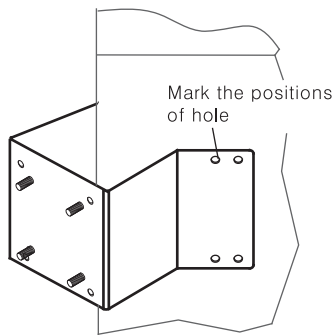

FIG.1
- a-1. First mark the positions of holes placing the corner mount bracket. (FIG.1)